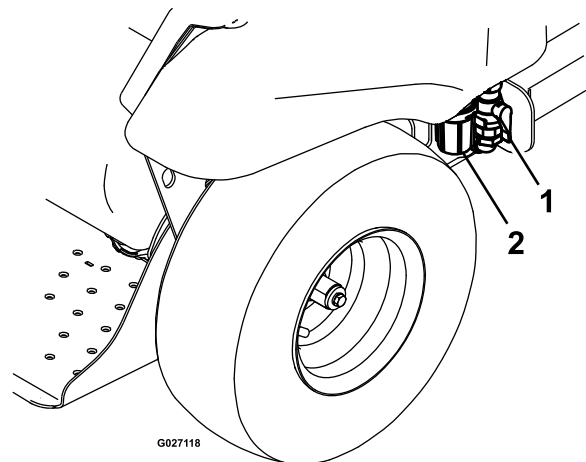

Figure 47
2. Rotate the handle for the sprayer pump supply valve 90° counterclockwise (Figure 47).
3. Align a drain pan under the strainer (Figure 47).
9. Rotate the handle for the sprayer pump supply valve 90° clockwise (Figure 47).